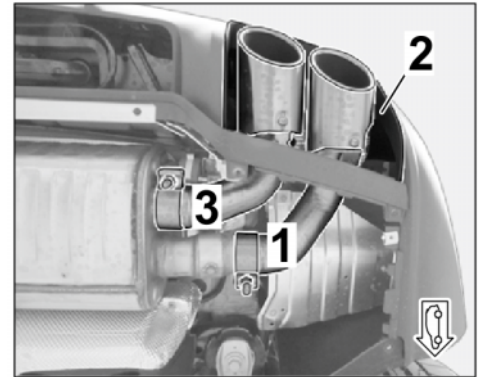

Figure 5
1.4.1 Undo the hexagon nut on tailpipe clamp – outer (left / right ⇒ *Figure 5*).